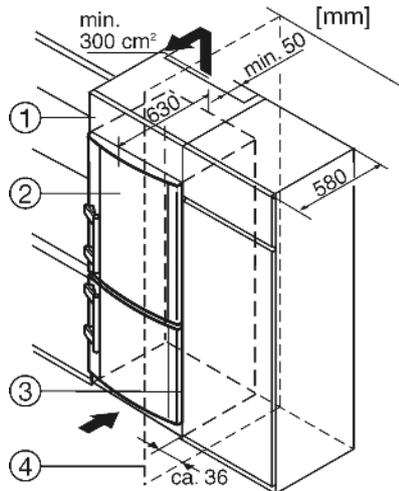

Fig. 9
- (1) Stack cabinet
- (2) Appliance
- (3) Kitchen cabinet
- (4) Wall
The appliance can be inserted into a row of kitchen units. To match the appliance *Fig. 9 (2)* to the height of the row of units, a suitable stack cabinet *Fig. 9 (1)* can be fitted above the appliance.
When inserting the appliance into a row of standard kitchen units (max. depth 580 mm), the appliance can be installed directly next to the kitchen unit *Fig. 9 (3)*. The appliance door projects relative to the front of the kitchen unit by 34 mm at the side and by 50 mm in the middle of the appliance. It can be opened and closed perfectly as a result.
If the appliance is installed with the hinges next to a wall *Fig. 9 (4)*, the distance between appliance and wall has to be at least 36 mm. This corresponds to the projection of the handle when the door is open.